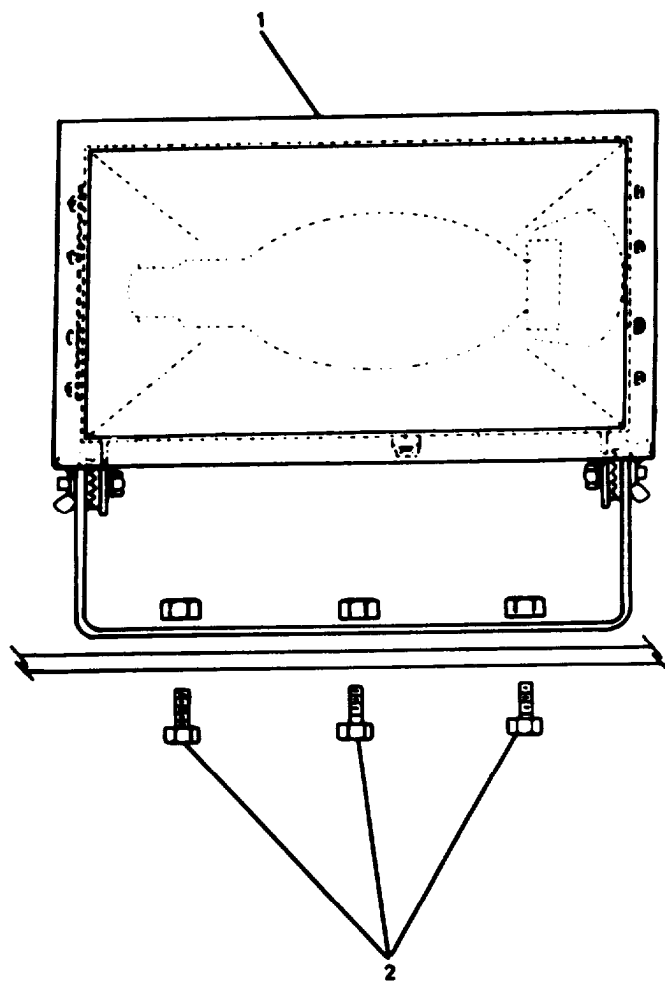

FIGURE 2-159. Floodlight Replacement.
- (1) Disconnect electrical connection (stuffing tubes) from floodlight (1, FIGURE 2-159).
- (2) Remove three mounting bolts and nuts (2).
- (3) Remove floodlight (1).
- (1) Position floodlight (1, FIGURE 2-159). Secure with three mounting bolts and nuts (2).
- (2) Connect electrical connection.